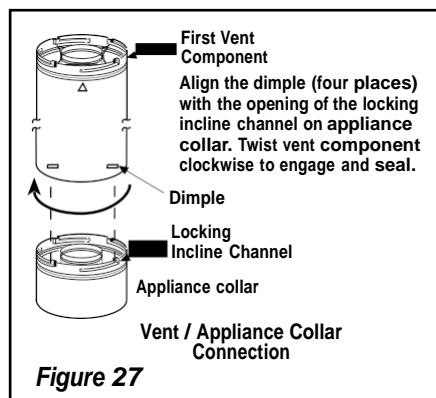

Figure 27
B. Attach vent components to appliance - Secure Vent® SV4.5 direct vent system components are unitized concentric pipe components featuring positive twist lock connections (see **Figures 27 and 28**).
To attach a vent component to the appliance collar, align the dimpled end over the collar, adjusting the radial alignment until the four locking dimples are aligned with the inlet of the four inclined channels on the collar (refer to **Figure 27**). Push the vent component against the collar until it fully engages, then twist the component clockwise, running the dimples down and along the incline channels until they seat at the end of the channels. The unitized design of the **Secure Vent** components will engage and seal both the inner and outer pipe without the need for sealant or screws. If desired a #6 x 1/2" screw may be used at the joint, but it is not required as the pipe will securely lock when twisted.